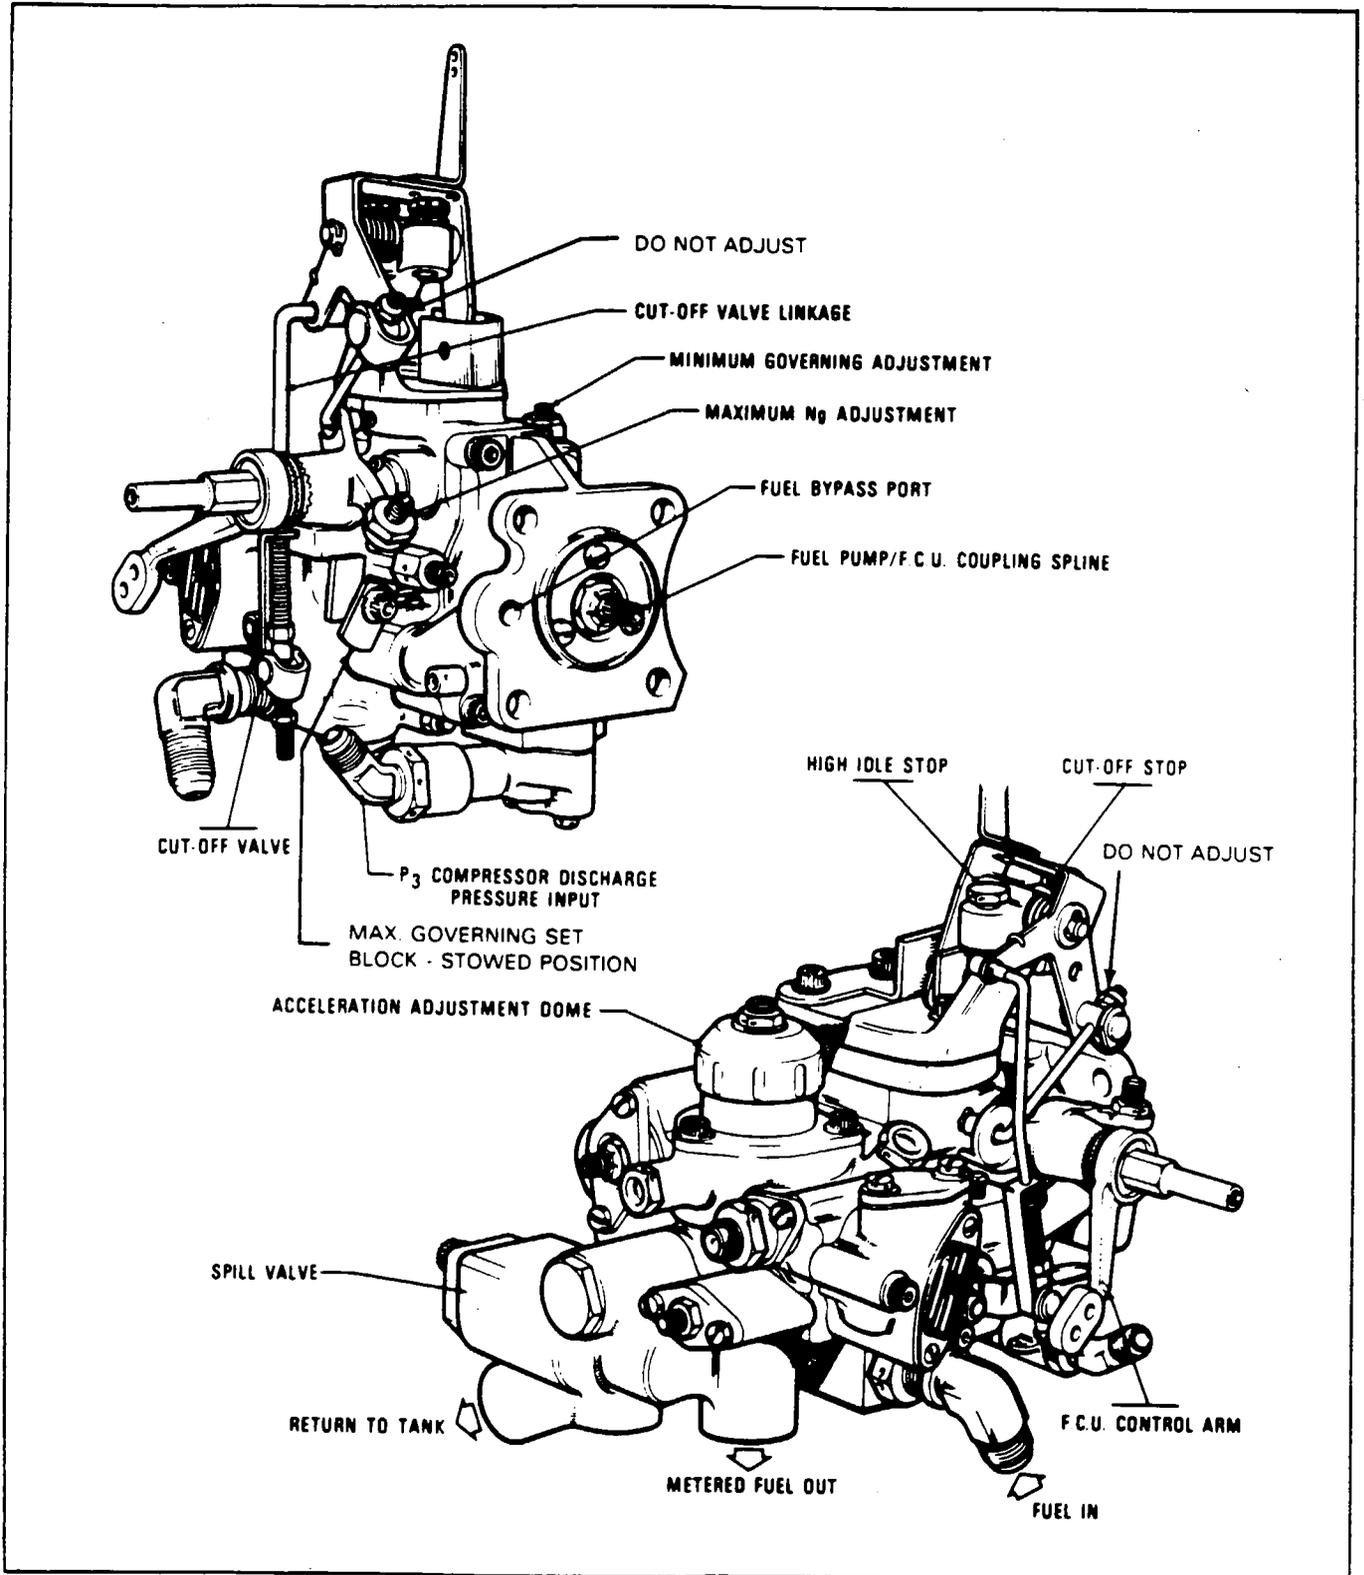

Figure 73-5. Fuel Control Adjustments
**FUEL CONTROL UNIT CHECKS AND ADJUSTMENTS. (Refer to Figure 73-5.)**